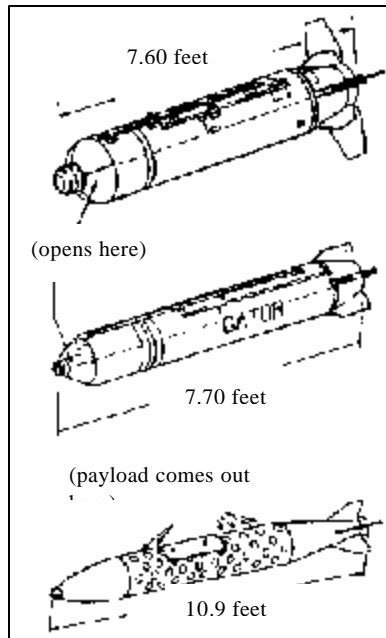

Figure 28. Dropped Dispensers.
- (2) Never approach a dispenser or any part of a dispenser you find on the battlefield. The payload of submunitions always scatters in the area where the dispenser hit the ground.
- (3) **Dropped dispensers.** These dispensers (Figure 28) fall away from the aircraft and are stabilized in flight by fin assemblies. Dropped dispensers may be in one piece or in multiple pieces. All dropped dispensers use either mechanical time or proximity fuzing. These fuzes allow the payload to be dispersed at a predetermined height above the target.. Multiple-piece dispensers open up and disperse their payload when the fuze functions. Single-piece dispensers eject their payload out of ports or holes in the body when the fuze functions.